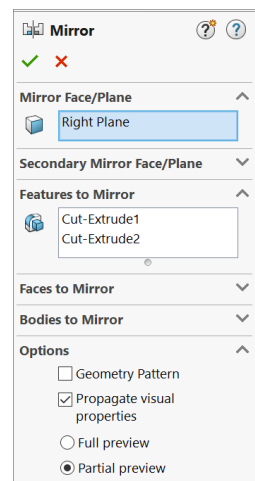

Fig. 17
Step 3. In the Mirror Property Manager click **OK** , **Fig. 17**.